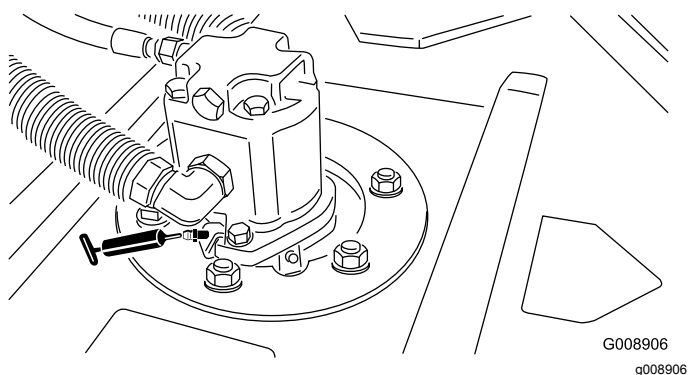

Figure 51
- Cutting unit spindle shaft bearings (2 per cutting unit) (Figure 51)